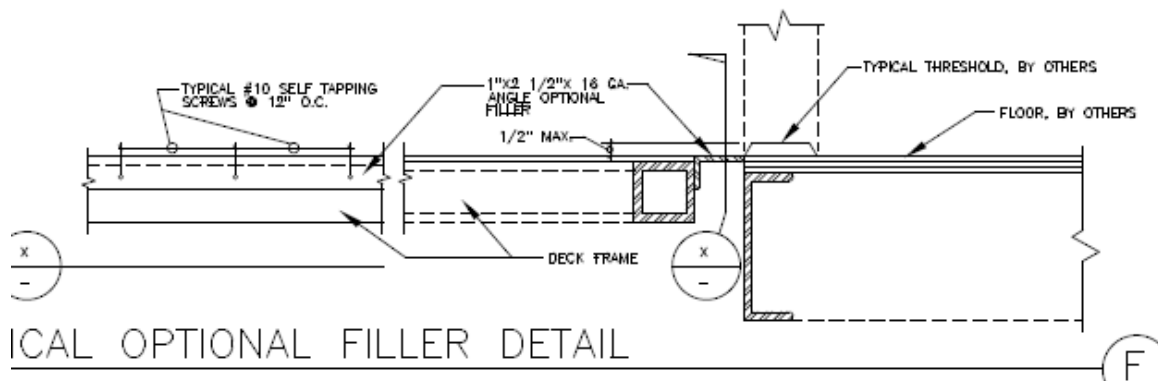

Figure I-1
- D. Make sure the placement of the landing at threshold leaves a 42" diagonal from the door to the **center of the intersection of landing and first ramp section**. (Please see TMP drawings that show the typical filler detail. Or refer to Figure I and Figure I-1).